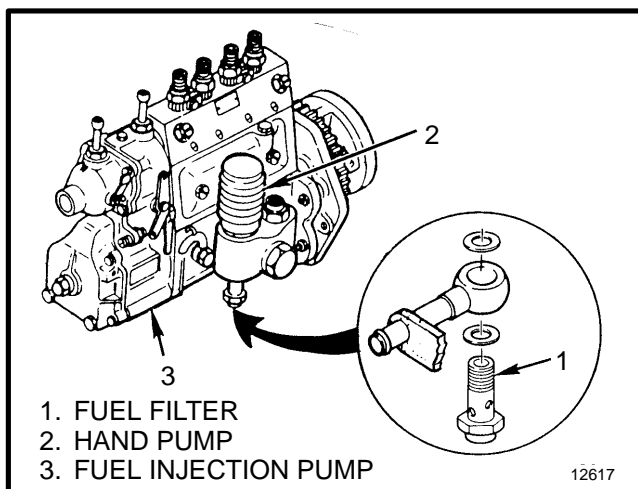

FIGURE 72. FILTER, FUEL INJECTION PUMP, MODEL PE4A
See FIGURE 72. A small filter is in the special bolt where the fuel line is connected to the fuel injection pump. Remove the special bolt and fuel filter (1). Clean the filter in mineral oil solvent and check for damage. Replace the filter (1) if it is damaged or has a restriction and can not be cleaned.